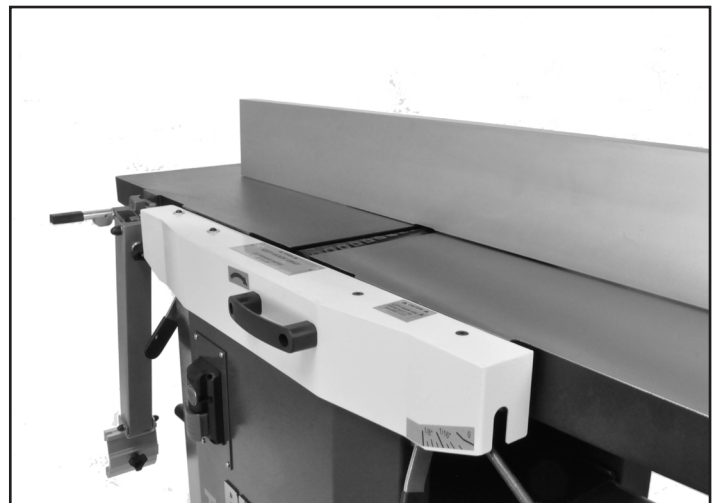

FIG. 17
2. Slide the fence and cutterhead guard to the sides and off the tables to reveal the whole table surfaces. FIG. 17.